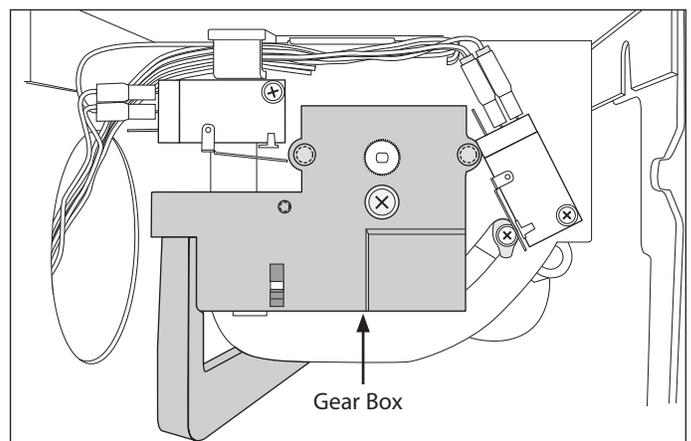

Figure 6-80.
3. Slide the gear box and bail arm off the ice mold drive shaft. (See Figure 6-80)